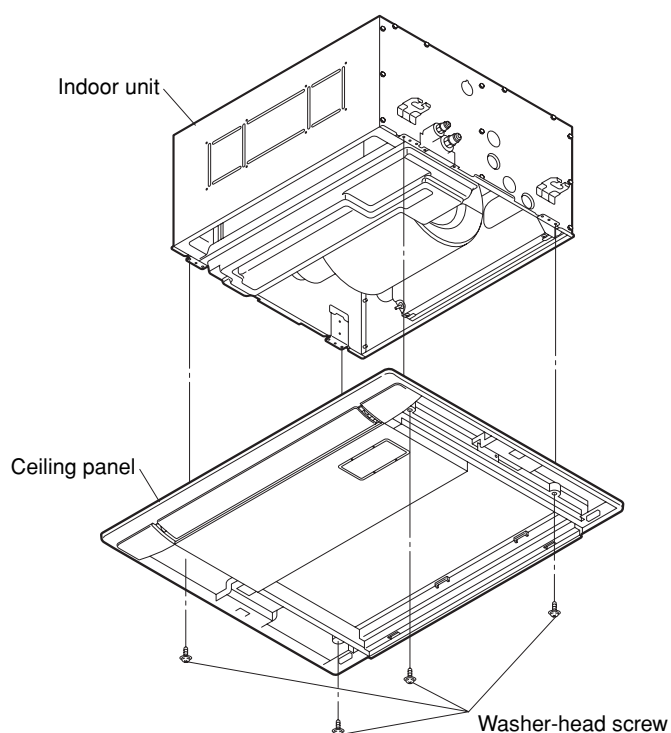
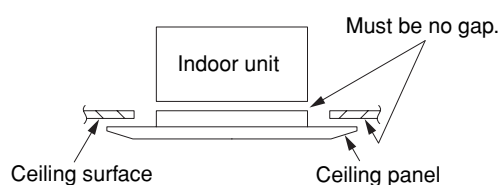

Fig. 3-54
Fig. 3-55
- (5) Align the installation holes on the panel with the bolt holes on the unit.
- (6) Insert the supplied washer head bolts into the 4 panel installation holes, and tighten until the panel is securely fastened against the unit. (Fig. 3-54)
- (7) Verify that the panel is securely fastened against the unit.
- At this time, make sure that there is no gap between the indoor unit and the ceiling panel, or between the ceiling panel and the ceiling surface. (Fig. 3-55)